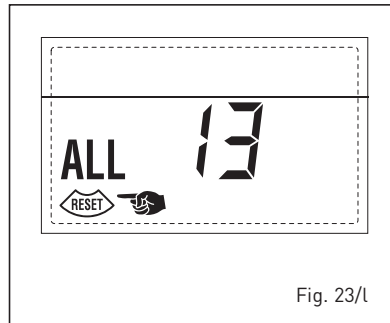

Fig. 23/l
**- "ALL 14" EXHAUST FUMES PROBE ERROR (fig. 23/m)**